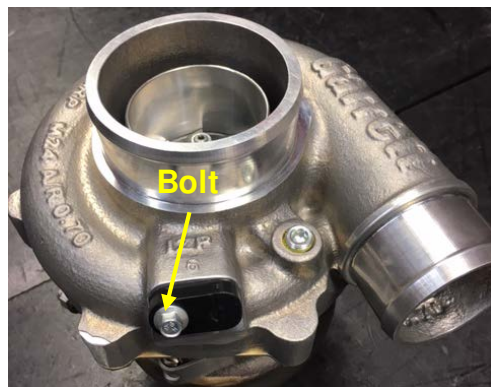

Fig. 14
14. Remove bolt from speed sensor port plug located on inlet side of compressor housing using a 7mm socket or wrench(Fig. 14). Remove speed sensor port plug from compressor housing by pulling on it gently and rotating if necessary. Put bolt aside to be used when installing speed sensor. Note: Compressor Housing does not need to be removed from Turbocharger and Turbocharger does not need to be removed from engine if there is adequate space to access the speed sensor plug.